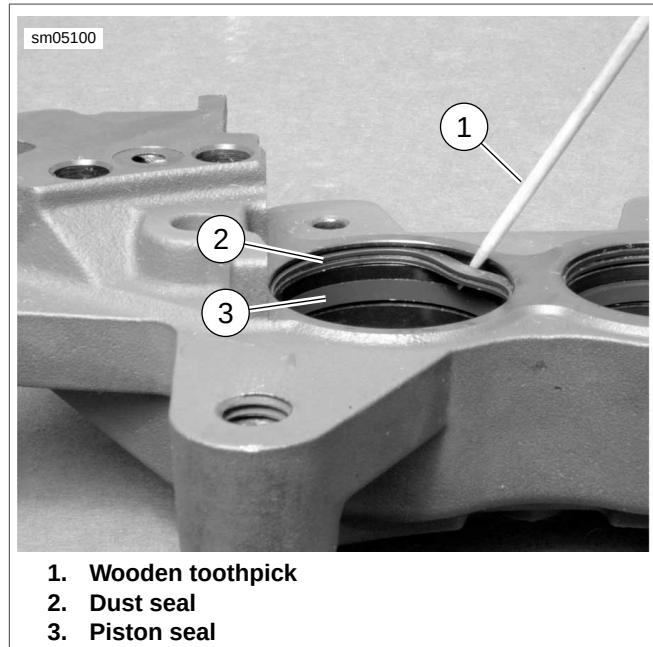

Figure 2-99. Caliper Seals
8. See Figure 2-99. Using a wooden toothpick (1), remove dust seal (2) and piston seal (3) from each caliper bore. Discard seals.
2. See Figure 2-99. Install a **new** piston seal (3) and a **new** dust seal (2) into each piston bore.